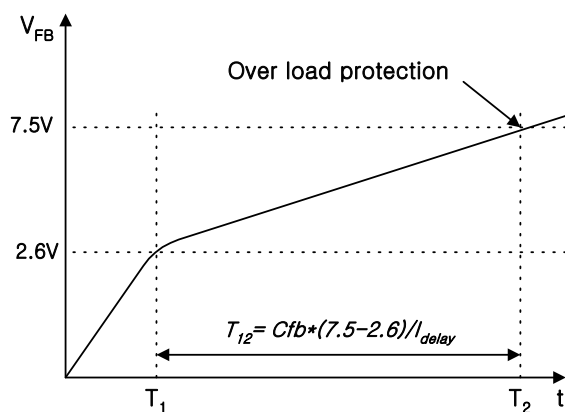

Figure 4. Over load protection
3.2 Over Load Protection (OLP) : Overload means that the load current exceeds a pre-set level due to an abnormal situation. In this situation, protection circuit should be activated in order to protect the SMPS. However, even when the SMPS is in the normal operation, the over load protection circuit can be activated during the load transition. In order to avoid this undesired operation, the over load protection circuit is designed to be activated after a specified period to determine whether it is a transient situation or an overload situation. Because of the pulse-by-pulse current limit capability, the maximum peak current through the SMPS is limited, and therefore the maximum input power is restricted with a given input voltage. If the output consumes beyond this maximum power, the output voltage (Vo) decreases below the set voltage. This reduces the current through the opto-coupler diode, which also reduces opto-coupler transistor current increasing Vfb. If Vfb exceeds 2.6V, D1 is blocked and the 5μA current source starts to charge Cfb slowly compared to when the 0.9mA current source charges Cfb. In this condition, Vfb continues increasing until it reaches 7.5V, and the switching operation is terminated at that time as shown in figure 4. The delay time for shutdown is the time required to charge Cfb from 2.6V to 7.5V with 5μA. When Cfb is 10nF (103), T12 is approximately 9.8ms and when Cfb is 0.1μF (104), T12 is approximately 98ms. These values are enough to prevent SMPS from being shut down during transient situations.